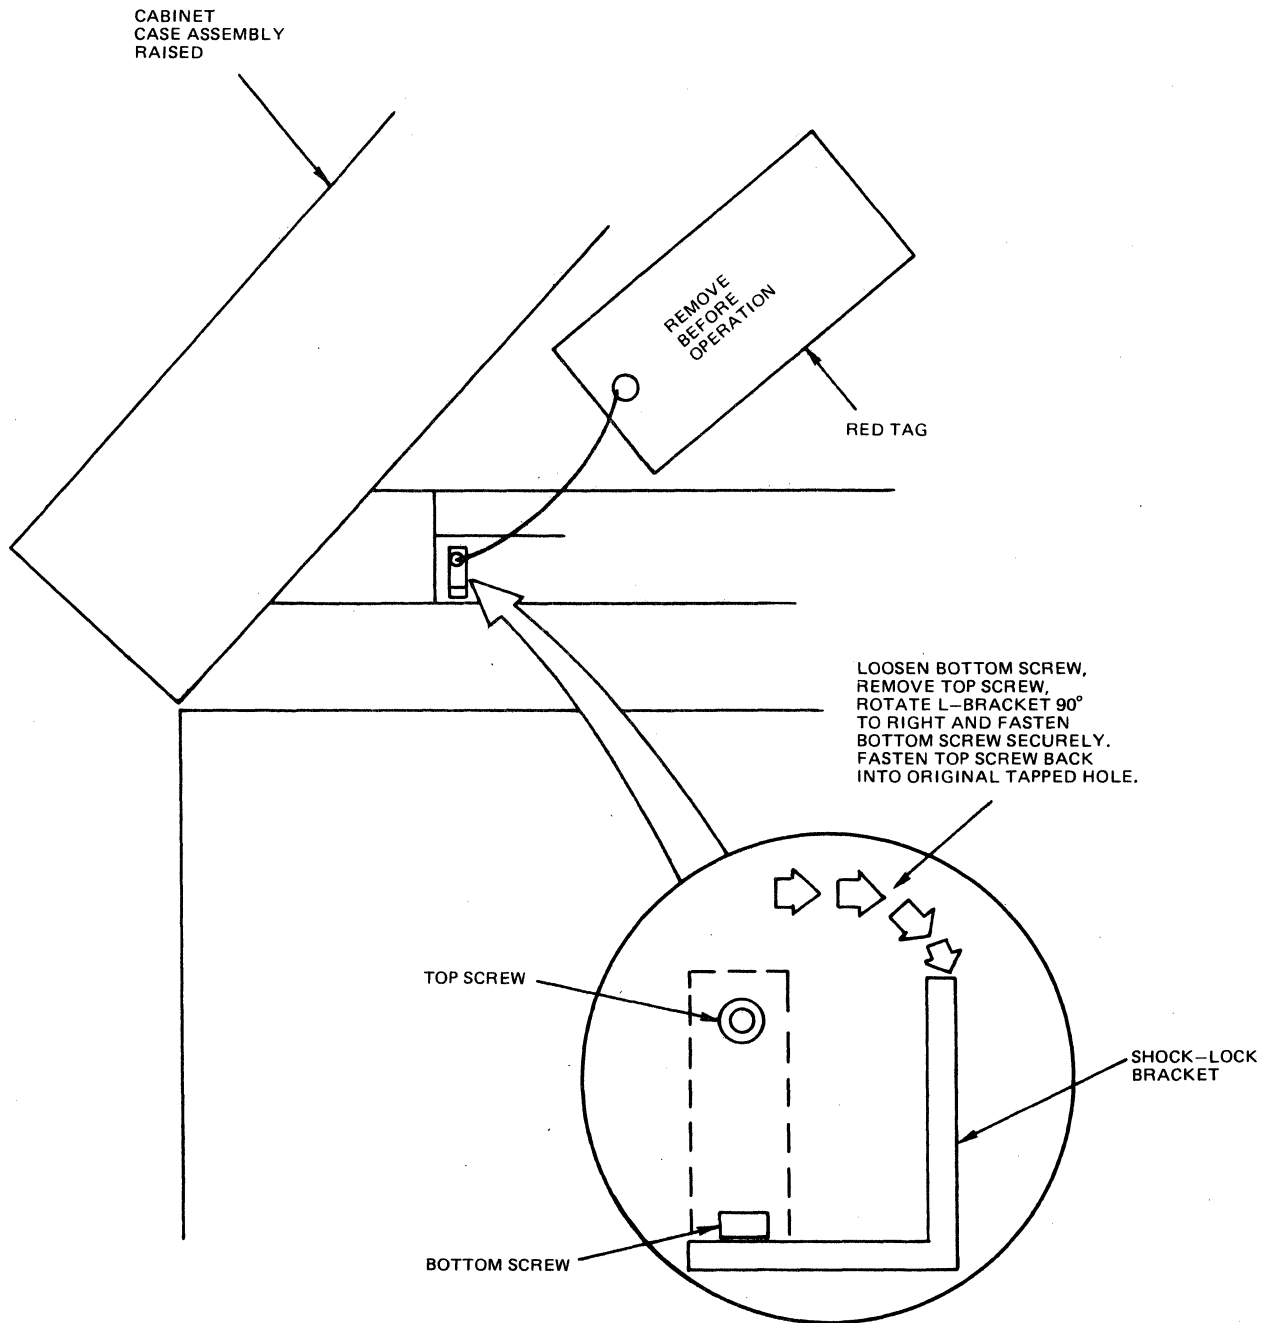

Figure 2-4 Removal of Shock-Lock Bracket
4. From right-hand side of drawer, locate shock-lock bracket (red tag attached) near front of drawer (see Figure 2-4). Loosen bottom screw and remove top screw. Pivot L-shaped shock-lock bracket 90 degrees to right and fasten bottom screw securely. Place top screw back into original tapped hole and fasten it securely. Discard red tag and string.